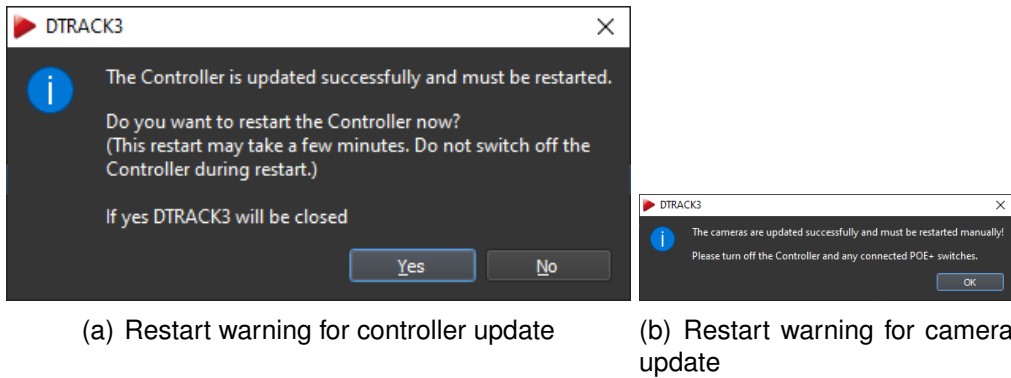

Figure 12.5: Restart after updating
**For controller updates only:** In order to restart directly click *Yes* in the upcoming dialog (refer to figure 12.5(a) page 169).